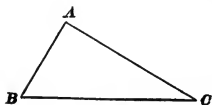

FIG. 25.
**55.** In any triangle the sum of the three angles equals two right angles, or  $180^\circ$ . Thus, in Fig. 25, the sum of the angles  $A$ ,  $B$ , and  $C$  equals two right angles, or  $180^\circ$ . Hence, if any two angles of a triangle are given and it is required to find the third angle: